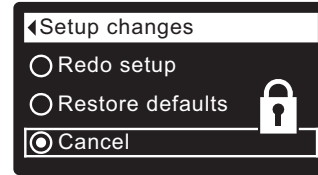

FIG. 32
8. Press the RIGHT (▶) button. A flashing padlock icon will appear, as shown in Figure 32.
- 1-7. Go to the **Setup changes** screen (Figure 32) by following Steps 1-7 at left.